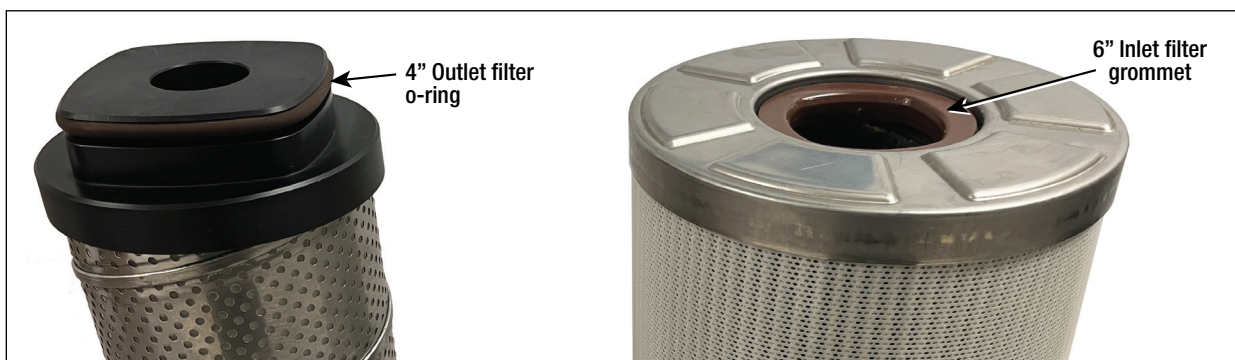

Figure 4. Location of Outlet Filter O-Ring and Inlet Filter Grommet
8. Get the corresponding filter from the kit, Apply provided lubricant to the o-ring or grommet as appropriate (see Figure 4).